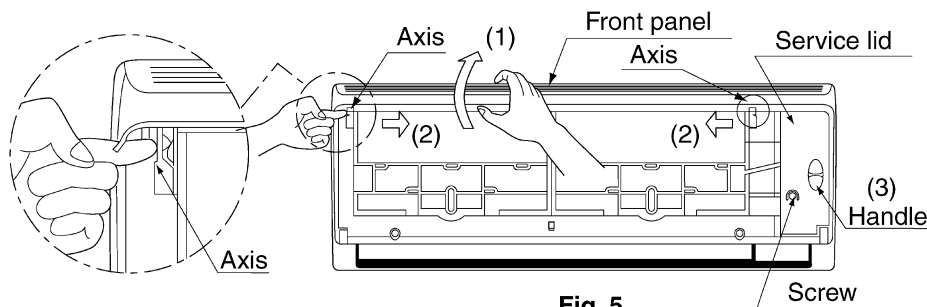

Fig. 5
### (4) Remove the front panel and the service lid. (Refer to Fig. 5)